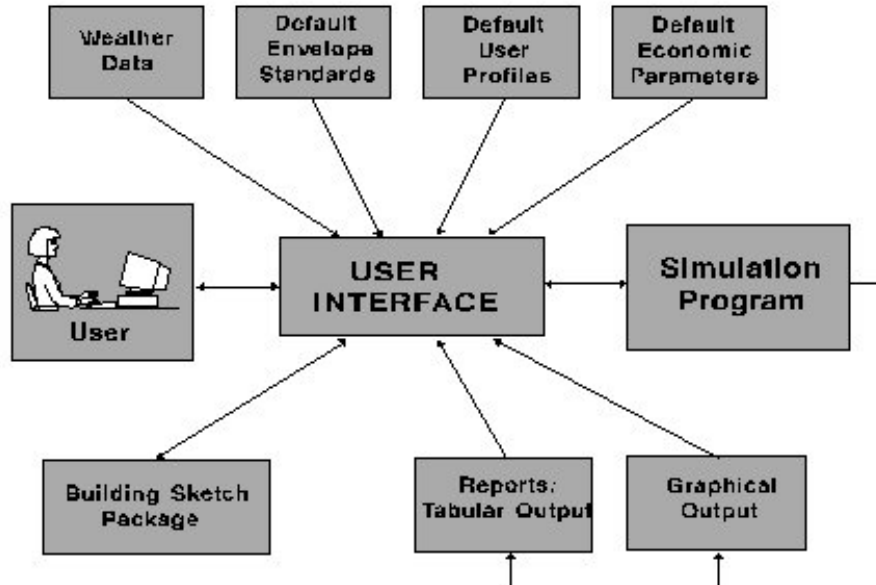
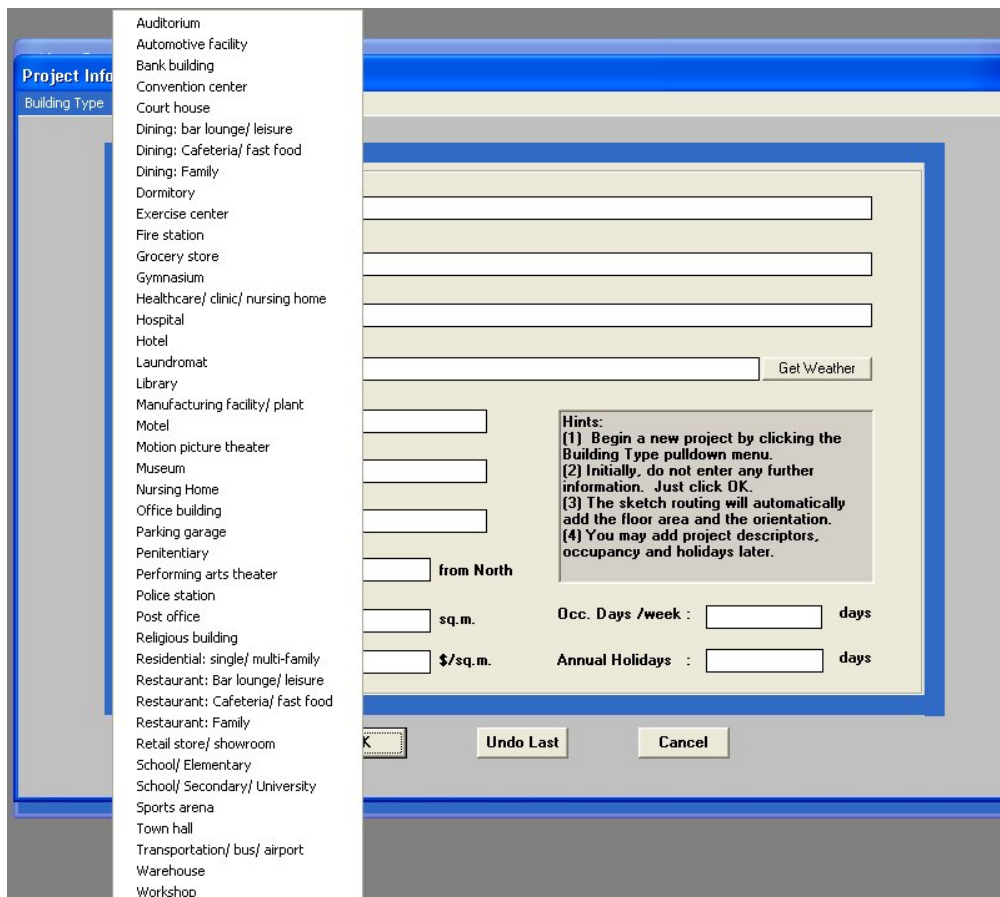

Fig. 1 Module linkages in ENER-WIN.
Fig. 4 Screen showing the 42 optional building types.
The ENER-WIN program is written in two major modules – a user interface (written in Visual Basic) and a simulation program (written in FORTRAN). This guide will outline the steps necessary to use the interface and will also describe generally what the simulation program will do with the inputs entered through the user interface. The overall modules in ENER-WIN are shown below in Figure 1.
- **Building type:** This is an important variable and can only be selected when beginning a new project. It is selected by clicking on the "Building Type" pop-down menu in the upper left corner. There are 42 building types listed from which to choose. When the building type has been selected, numerous default values are read from the default databases that are shown in Fig. 1 and several default parameters are set. An image of the pop-down screen showing the selection of building types is shown in Fig. 4.
- **Evaluation year:** This value has two purposes – (1) to make dates coincide with the correct days of the week, including the extra day in February on leap years (the year 2000 presents no problems for this software), and (2) to identify the "current year" costs for the economic values that are entered for fuel and building components. A present worth economic model will bring all costs back to present worth on the year that the computer program is being run. That year is determined from the computer's memory.